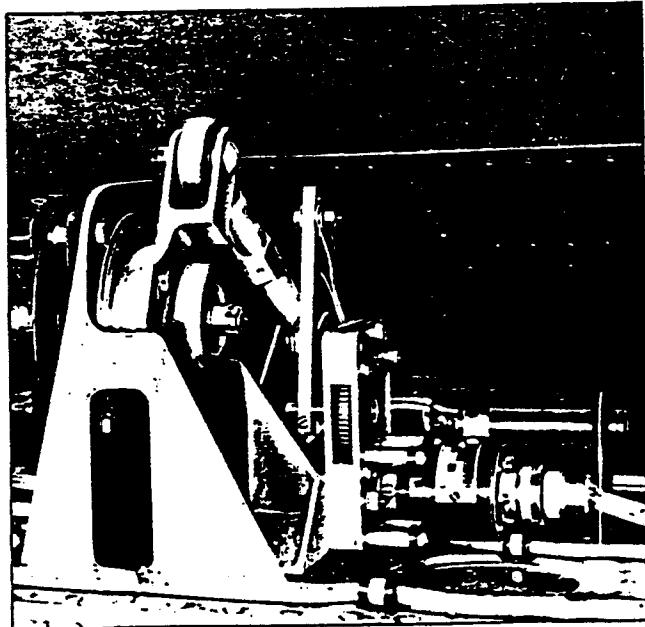

Figure 15. Flap Position Transmitter
(2) **FLAP POSITION TRANSMITTER ELECTRICAL AN5785-1** (See figure 15.)- The transmitter is installed near the flap operating mechanism of the right wing and is mechanically linked to it.